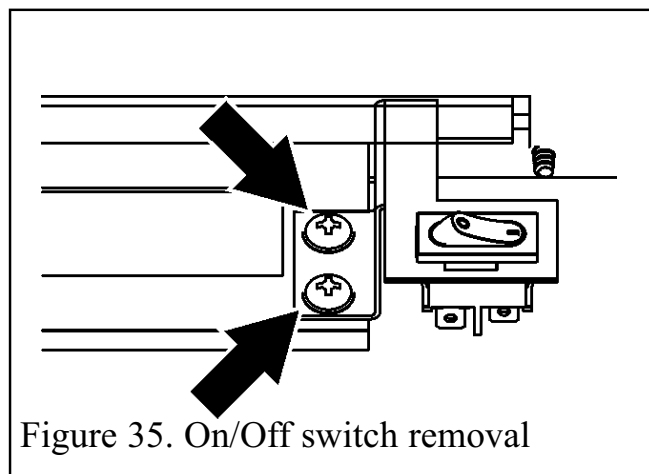

Figure 35. On/Off switch removal
9. Remove the two screws that hold the On/Off switch bracket to the front of the gas valve bracket (See figure 35).